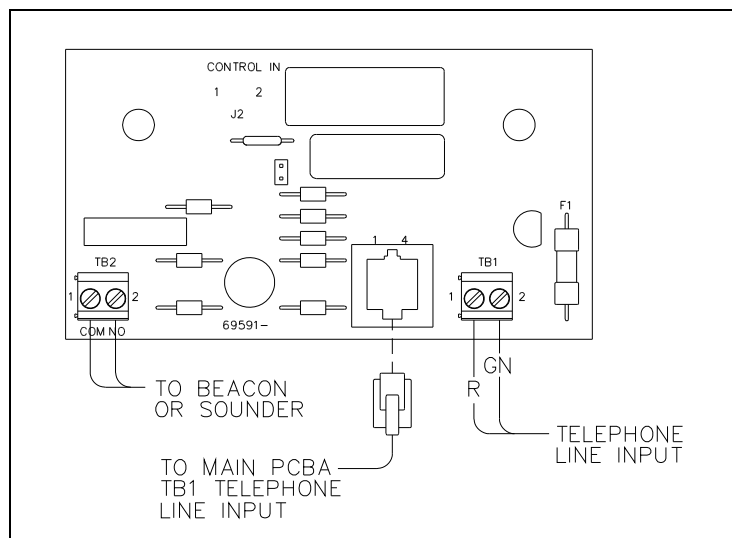
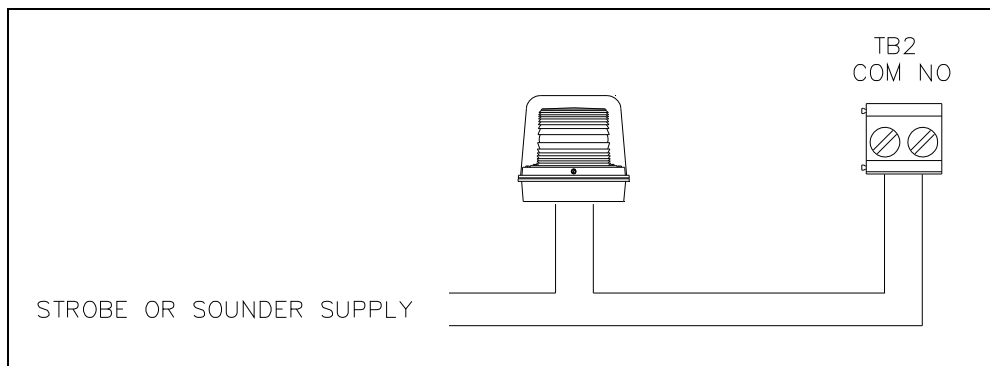

Figure 8. Ring Relay PCBA
Figure 9. Strobe or Sounder Wiring
4. When a ring relay PCBA is present, connect the incoming subscriber line to terminal block TB1, on the ring relay PCBA (see Figure 8 and Figure 9).